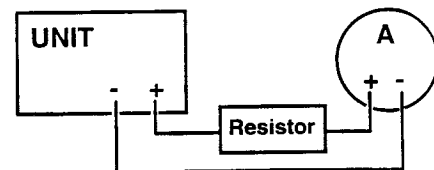

fig. 2
- 1 Connect a resistor and ammeter to the unit in series (see fig. 2)